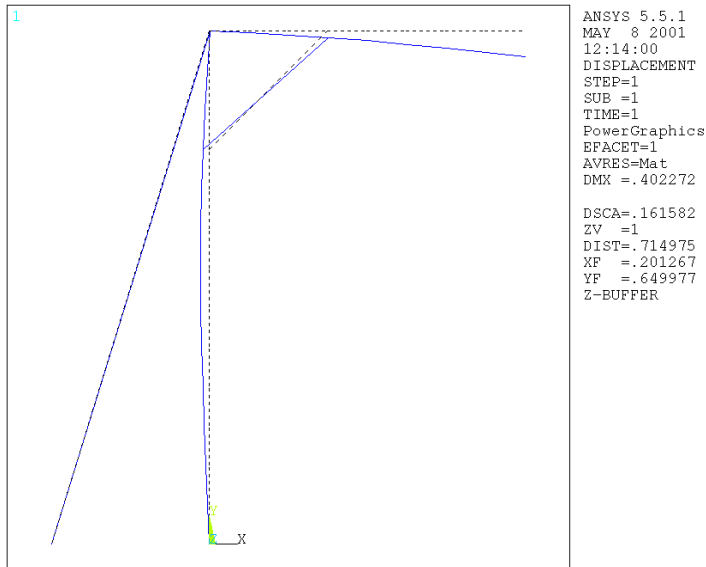

Figure 3.2
3. Choose 'Def shape only', 'Def + undeformed', or 'Def + undef edge', depending on whether you want to see the deformed shape alone or with the undeformed shape as well. A plot of the deformed shape with the undeformed shape's edge is shown in Figure 3.2.